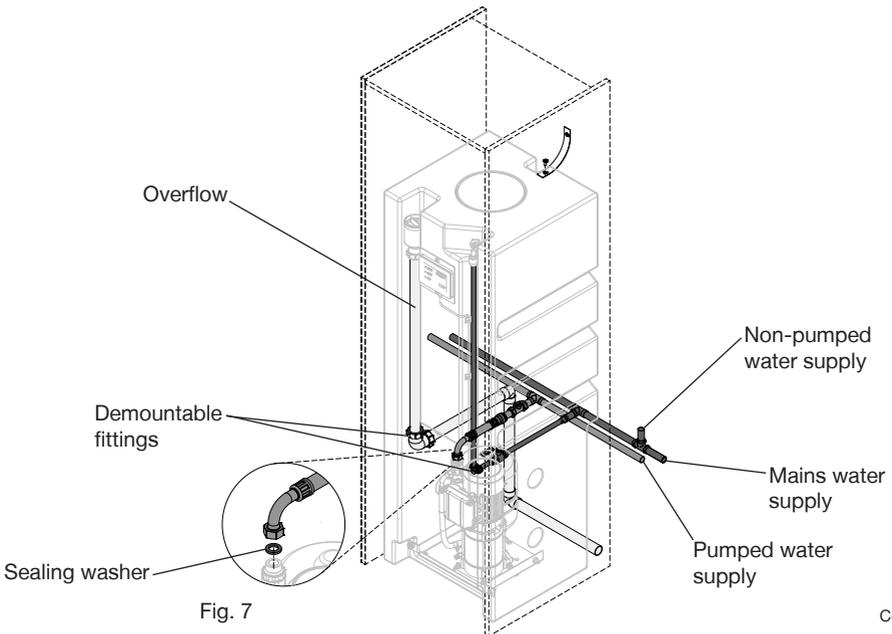

Fig. 7
4.11 **Mains water connection to iBoost:** The water tank fill valve has a G ½ male threaded fitting; a suitable 90° elbow type fitting must be used. When tightening ensure the fill valve within the tank is not rotated. If the valve is rotated it may not function correctly with the risk of flooding. Ensure there is a demountable joint in the pipe to allow the removal of the iBoost if needed (see Fig. 7).
4.13 **Connection to overflow/warning pipe:** The overflow fitting is designed to use 1 ¼ " (35 mm OD) plastic waste pipe. Ensure there is a demountable joint in the pipe to allow the removal of the iBoost if needed (see Fig. 7). The overflow must be free to vent to atmosphere either via a tundish or a dedicated external pipe.
Connect the services using isolation valves and demountable fittings (push-fit or compression) where shown in Fig. 7. The positioning of these fittings allow the iBoost to be removed without cutting pipes or draining the system.